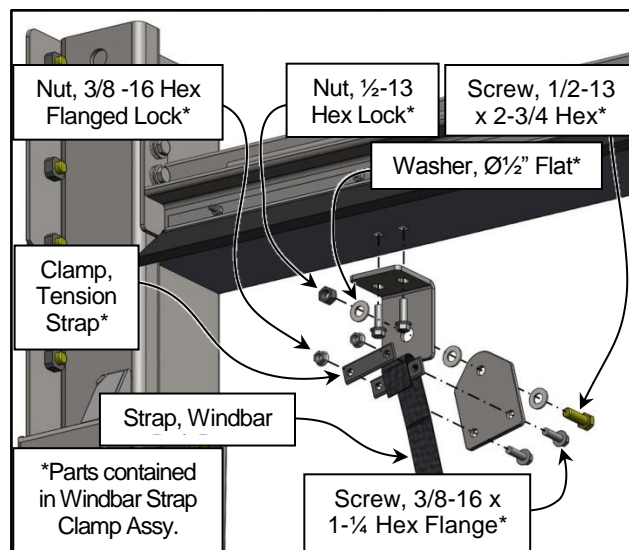

Figure 74
6. Loosen the rear strap clamp bolts and loosen the straps up or down through the clamps as necessary. Move the Windbar up or down, as required, by raising or lowering the windbar on the forklift. Also make sure the Windbar is level. (See Figure 74)
8. Retighten the clamp bolts when the Windbar is in the correct position and the straps retightened. (See Figure 74)